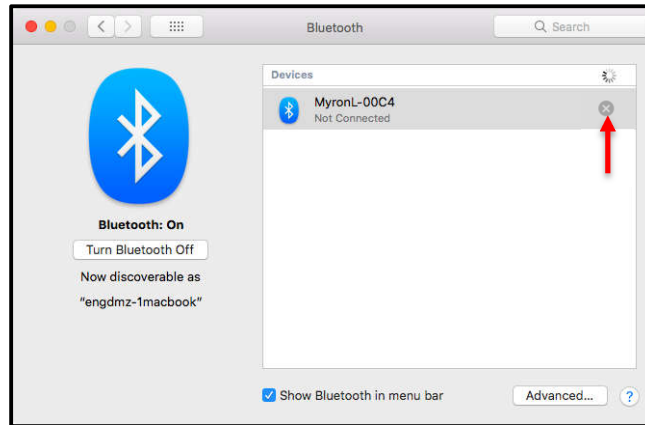

Figure 21
- 3) Click on the "X" button shown by the arrow (Figure 21).